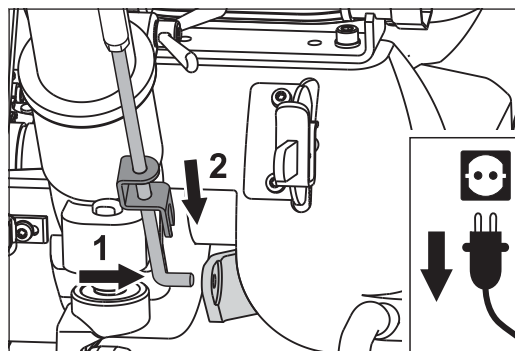

Fig. 3 Put the lower rod in the hole of the lifting fixture (1) and fix them with the closure (2).
- 3 Put the lower rod in the hole of the lifting fixture (Fig. 3, 1) and fix them with the closure (Fig. 3, 2).